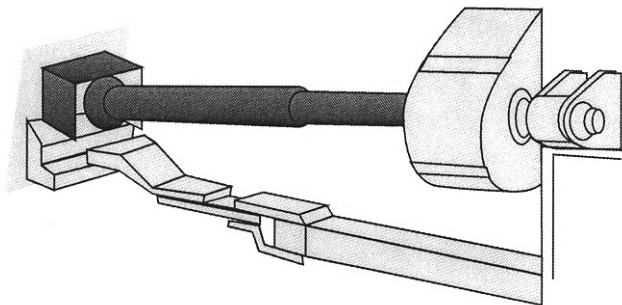

Figure 6. Shielded for safety: keep dangerous rotating parts covered on a PTO driveline.
- Fully shield PTO drivelines (Figure 6).